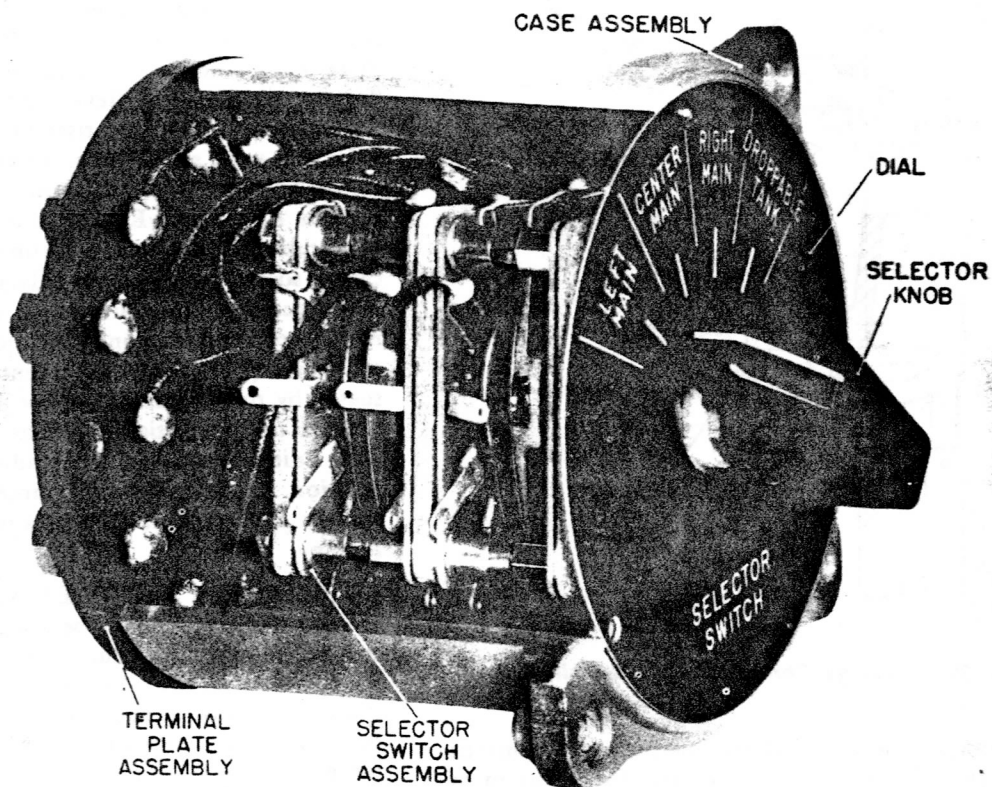

Figure 41—Cutaway View of Selector Switch
(5) In addition to the leverage type float unit, there is also a "direct lifting type". This type is used where there is not sufficient clearance in the tank for the float arm travel of the "leverage type". The direct lifting type utilizes a float that rises vertically but which provides the same sealing method and electrical operation as the leverage type. This tank unit bears designations such as EA-17 and EA-67. It consists essentially of a long tube with a circular housing at one end and a locating socket at the other. A large float having a thick roller running in a spiral guide slot in the tube, transmits a rotating motion to a movable contact arm in the housing by means of a central shaft, which is actuated by rollers attached to the float. A resistance strip is used in conjunction with the movable contact arm. This unit has provisions for adjusting stroke and end position. A metal bellows mounted on the housing in a similar manner to the "leverage type", prevents fuel leakage.
f. SELECTOR SWITCHES. (See Figure 41.)—They are of the conventional type approved aircraft switches, containing a sufficient number of banks to accommodate the circuit used. They are used when there is insufficient space on the instrument panel for more than one indicator and the use of a single indicator containing two or more mechanisms is not desirable because of the short scale. They are also used in conjunction with a single indicator to indicate the quantity of fuel or oil in two or more tanks. When the index knob on the Selector Switch is turned to the desired tank unit which is inscribed on the tank plate of the Selector Switch the quantity of the fuel can then be read from the calibrated dial of the indicator. Selector Switches are generally supplied by the aircraft manufacturer.